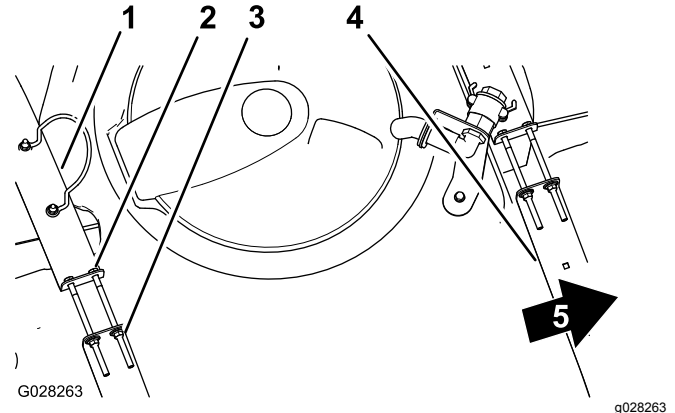

Figure 81
2. Check to see if there is any movement between the tank straps and the tank (Figure 81).
3. If the tank straps fit loose to the tank, tighten the flanged locknuts and bolts at the top of straps until the straps are flush with the surface of the tank (Figure 81).